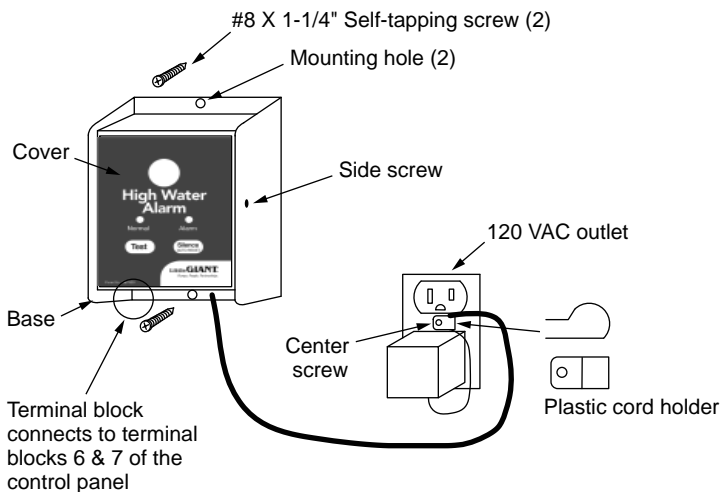

FIGURE 8
10. Select a mounting location for the alarm panel, ensuring that it is within 6 feet of an electrical outlet (Figure 8). To maintain power integrity, make sure the outlet is on a separate circuit breaker from any other device, and not a switched outlet.
11. Mount the alarm panel using two #8 x 1-1/4" self-tapping screws (not included). Use a #8 plastic anchor if mounting to sheet rock (Figure 8).
15. There are two terminals on the bottom of the alarm panel. Connect a wire from the first terminal to control panel terminal #6 and connect another wire from the second terminal of the alarm panel to control panel terminal #7 (Figure 8).
16. Plug the power supply in to a 120VAC, 50/60 Hz standard wall outlet. For UL applications, remove the center screw on the outlet and place the cord from the wall-mounted transformer inside the plastic cord holder. Secure the plastic cord holder to the outlet by reinstalling screw to the center hole of outlet (Figure 8). **CAUTION:** For Canadian applications, do not install the plastic cord holder.